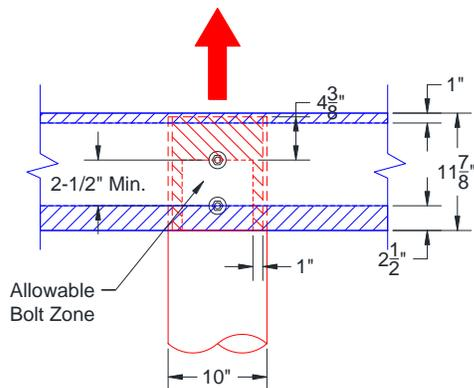

Figure 4: Uplift Design (Continuous Beam).
- $C_{\Delta} = 1.0$ based on maintaining all NDS® required end and edge distances for both the beam and pile. See Figures 4 and 5 for required distances based on this example.